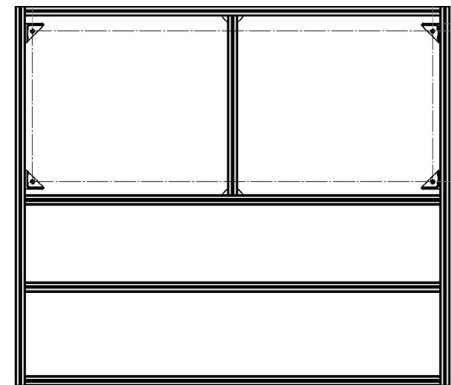

fig. 3.2-13
Step ⑬ Lift the universal wall **A2** (**fig. 3.2-13**) at the top end (near the protective cover) and place it straightened with the bottom part against the wall. Now attach the universal wall frame to the wall while firmly screwing on the brackets **A2f** with the 4 hexagon head cap wood screws in the prepared dowels. When using a torque spanner, adjust it to 25 Nm.